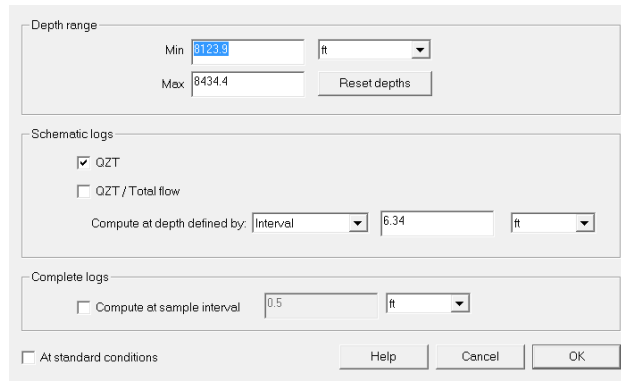

Fig. B01.43 • Log generation
- Validate the zone rate calculation with OK. The 'Rate Log Settings' option of the control panel is called directly, and the dialog in Fig. B01.43 appears.